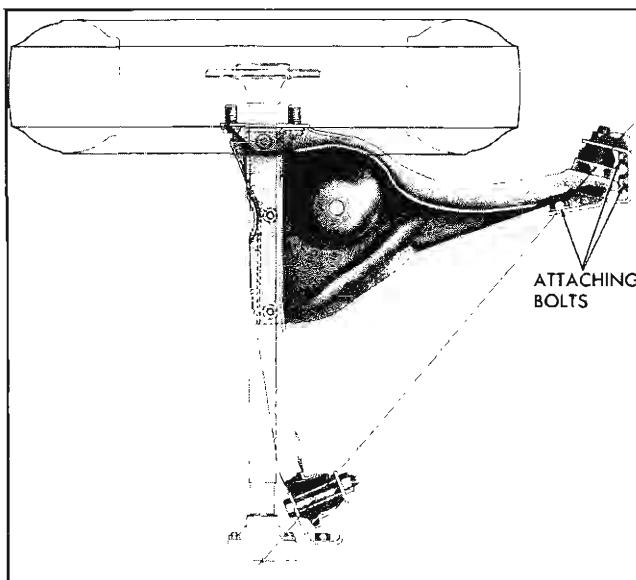

Fig. 3-13 Bracket Attaching Bolt Location
If drive-on type of equipment is used, reverse the vehicle and back it into position. Toe-in (overall) will be read as toe-out when the vehicle is backwards, because readings will be taken from the rear of the tire rather than the front. A trammel or side wall of tire (page 3-8) may also be used in a procedure similar to that used on the front wheels. Rear wheel toe is adjusted by adding or removing shims at the control arm to body side rail front attachment point Fig. 3-13).
2. Loosen three control arm bracket to body attachment bolts (Fig. 3-13).
3. Adjust toe to $\frac{1}{16}$ " out to $\frac{3}{16}$ " in by adding or removing shims at control arm bracket to body bolts, at front attachment points (Fig. 3-13).
CAUTION: Do not add or remove shims at control arm bracket upper bolt (Fig. 3-13). Shims are sometimes located here for manufacturing purposes only and should not be changed.